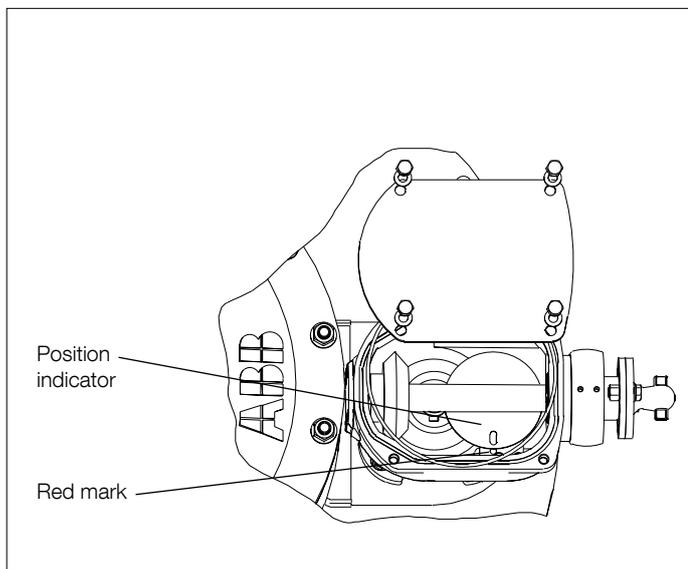

Fig. 12. Bevel gear.
3. After the measurement, the tap-changer must be operated in the direction and to the position shown in the single-phase diagram as the delivery position. The right position designation should be shown in the window in the position indicator on the bevel gear of the tap-changer, and the window should exactly face the red mark in the bevel gear housing; see Fig. 12. Remount the locking device on the bevel gear and the cover of the bevel gear. Carefully fit the gasket.